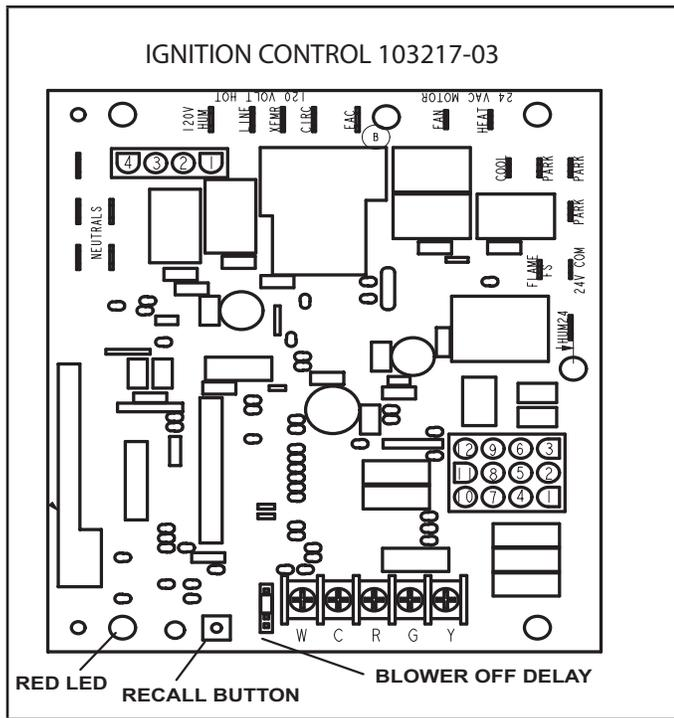

FIGURE 3
The hot surface ignition control system consisting of an integrated control (FIGURE 3 or FIGURE 5) with control terminal designations in TABLE 1, TABLE 2, TABLE 3, sensor and ignitor (FIGURE 6). The integrated control and ignitor work in combination to ensure furnace ignition and ignitor durability. The integrated control, controls all major furnace operations. The integrated control also features a RED LED for troubleshooting and two accessory terminals rated at (1) one amp. The nitride ignitor is made from a non-porous, high strength proprietary ceramic material that provides long life and trouble free maintenance.